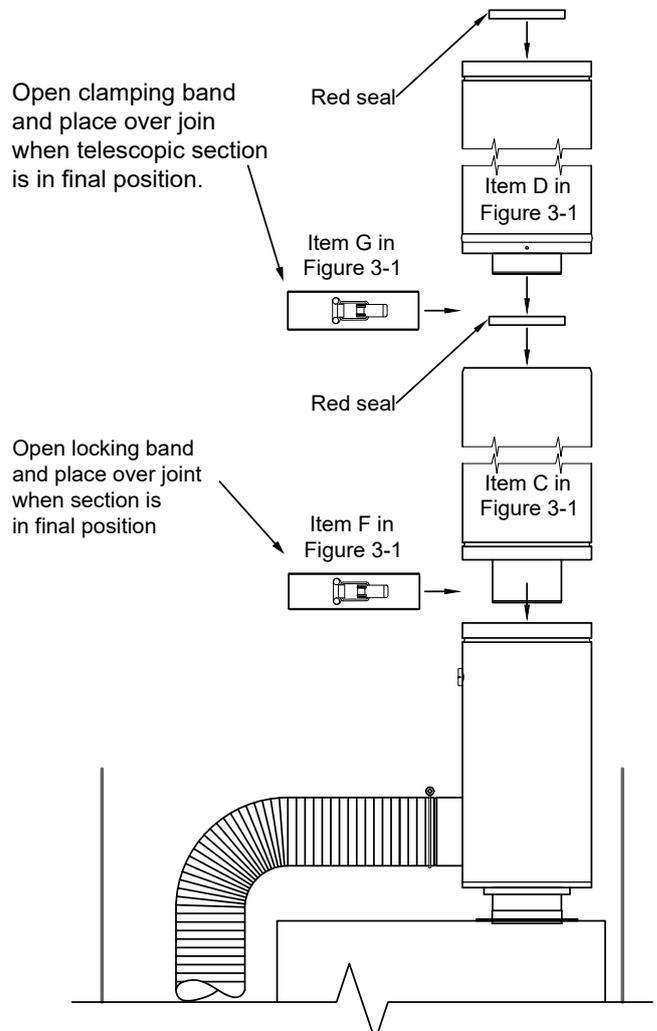

Figure 4-3: Fitting telescopic extension
- Refer to Figure 4-3 for guidance.